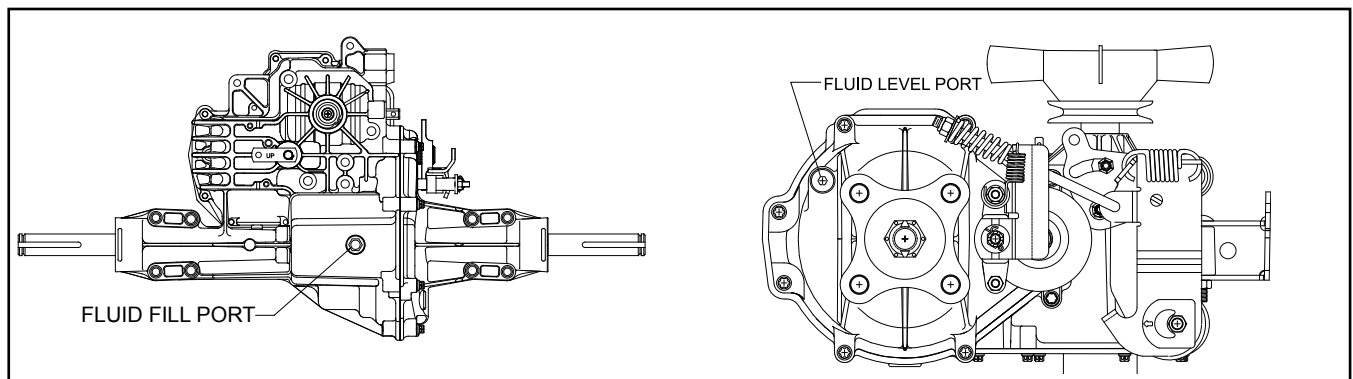

Figure 3. 310-3000 Fluid Fill and Level Ports
2. Check oil level See Figure 3, Page 7.
Certain situations may require additional fluid to be added or even replaced. Refer to Figure 3 for the proper fill port and fluid level port locations. Fill the unit until fluid flows out of the fluid level port. Recheck the fluid level once the unit has been operated for approximately 1 minute. Purging may be required. Refer to the purging procedures, Page 11.
1. With the bypass valve open and the engine running, slowly move the directional control in both forward and reverse directions 5 to 6 times, as air is purged from the unit, the oil level will drop and bubbles may appear in the oil. After stopping the engine, add oil, as necessary. Fill to the level outlined in Figure 3, Page 7.
**If you overfill the transaxle while the unit is "cold", it may overflow as it reaches normal operating temperatures. The oil level should not be above the level shown in figure 3, Page 7. This will allow the space needed for the oil to expand as it warms up.**